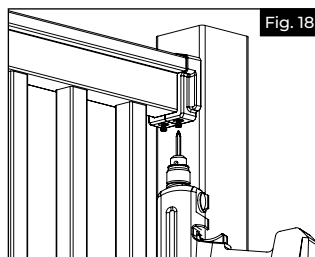

Fig. 18
- d. While tightly squeezing the bracket cover closed, pre-drill using a $\frac{5}{32}$ " drill bit through the two holes underneath. Then, drive two #10 x 1" square drive screws through the cover, metal bracket and into the top rail (Fig. 18).